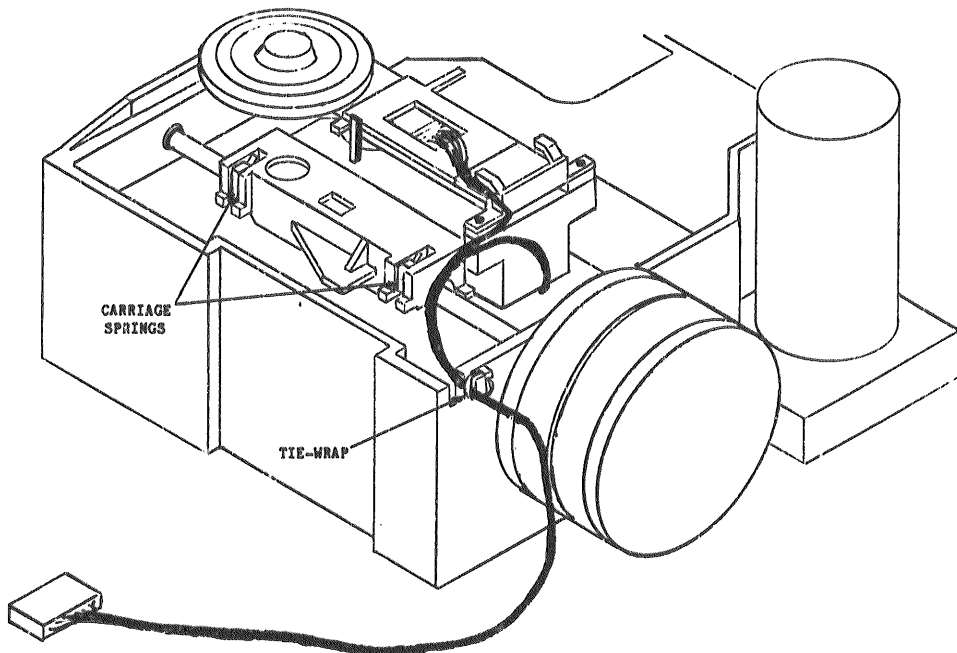

Figure 6-6. Head Carriage Assembly
- c. Hold the head carriage firmly with one hand. Using tweezers, remove (pull up and then away from the lead screw) both the front and the rear carriage springs shown in Figure 6-6.